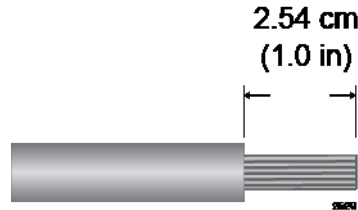

Figure 64. Stripping the solid or Stranded Grounding Wire
1. Prepare an adequate length of solid or stranded 10 AWG grounding wire by stripping it as shown in Figure 64.